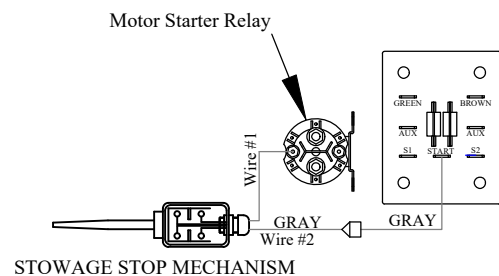

Figure 11: Stowage Stop mechanism.
- Step 6. **Connect** wire #1 to the Motor Starter Solenoid and wire #2 to the grey wire removed on step 5 (Figure 11).